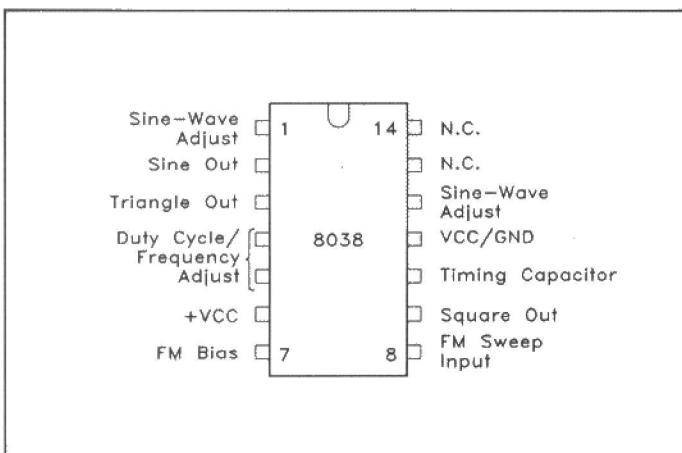
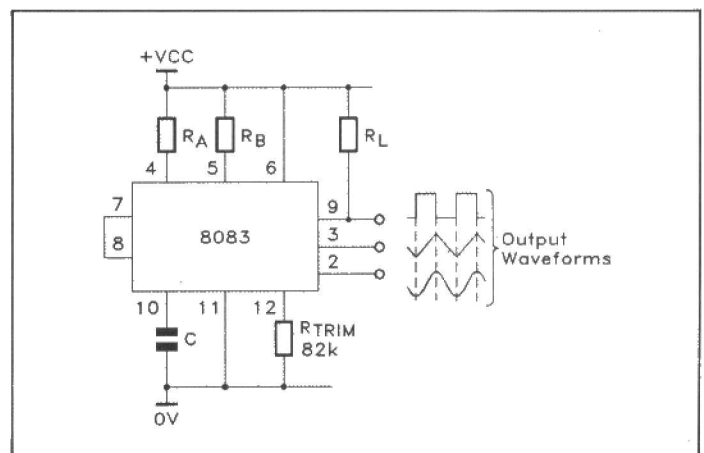

Figure 4. Outline and pin notations of the ICL8038 waveform generator IC.
Figure 5. Basic fixed-frequency triangle/sine/square waveform generator.
Figure 4 shows the outline and pin notations of the 8038, and Figure 5 shows the basic way of using it as a fixed-frequency triangle/sine/square waveform generator that is powered via a single-ended supply. Note in this circuit that the pin-7 FM BIAS terminal is shorted to the pin-8 FM SWEEP INPUT terminal, and in this case the 8038's operating frequency is determined by the values of C, R_A and R_B . In fact these two resistors set the operating values for a pair of internal, constant-current generators that alternately charge and discharge the main timing capacitor (C).
The 8038 is shown using single ended supplies in the circuits of Figures 5 to 7, and in such cases the three output